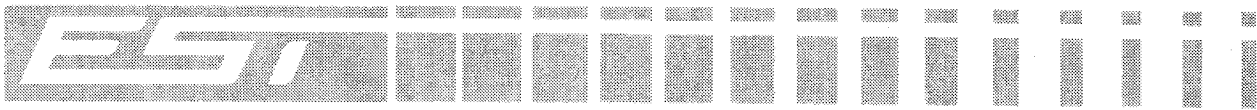

**Figure 3.3 - IAC Signal Rates**
- **Programmable Options** include: verified or non-verified alarm; waterflow with or without retard; and supervisory Initiating Device Circuits (IDCs). Verified circuits support dry contact alarm initiating devices when used with high impedance smoke detectors. Indicating Appliance Circuits (IACs) may be programmed as silenceable or non-silenceable with continuous, 120 Strokes per Minute (SPM), California, or temporal rates (Figure 3.3). The temporal rate meets the requirements of the national emergency evacuation signal. Alarm silence/reset inhibit, automatic alarm silence, and off-premise AC/brownout 6 hr. trouble delay timers are provided. Resettable power for 4-wire smoke detectors is provided.
The supervised Indicating Appliance Circuits (IACs) operate using compatible 24 VDC (nominal) polarized signaling appliances. Each circuit is rated at nominal 24 VDC @ 2.5 Amps, with a total of 4.0 Amps available for both circuits. An IAC may be programmed as either silenceable or non-silenceable. Signal rate selection is independently programmable for each IAC, as shown in Figure 3.3. Refer to the Appendix for compatible Indicating Appliances.